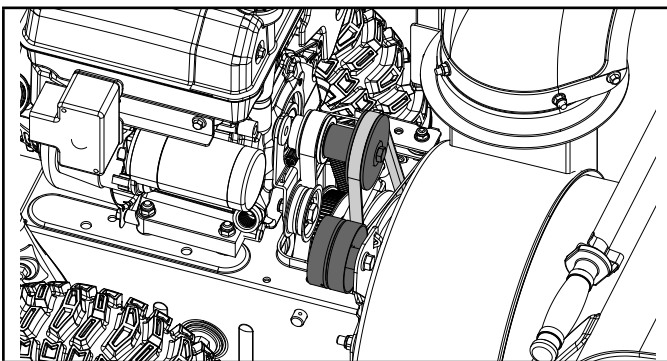

Figure 34
9. With the belt properly placed on both the front pulley and the auger drive pulley, pull the auger idler pulley back away from the belt and slip the belt inside the pulley. You can pull the recoil to rotate the pulley to help get it seated (Fig. 34).